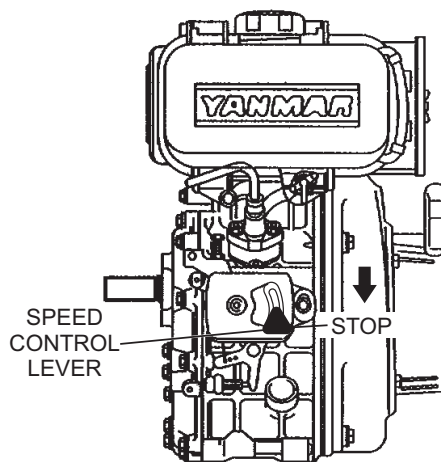

Figure 17. Speed Control Lever (Stop Position)
2. Next, place the speed control lever in the **STOP** position (Figure 17) to stop the engine.
1. Move the speed control lever quickly to the **STOP** position (Figure 17).